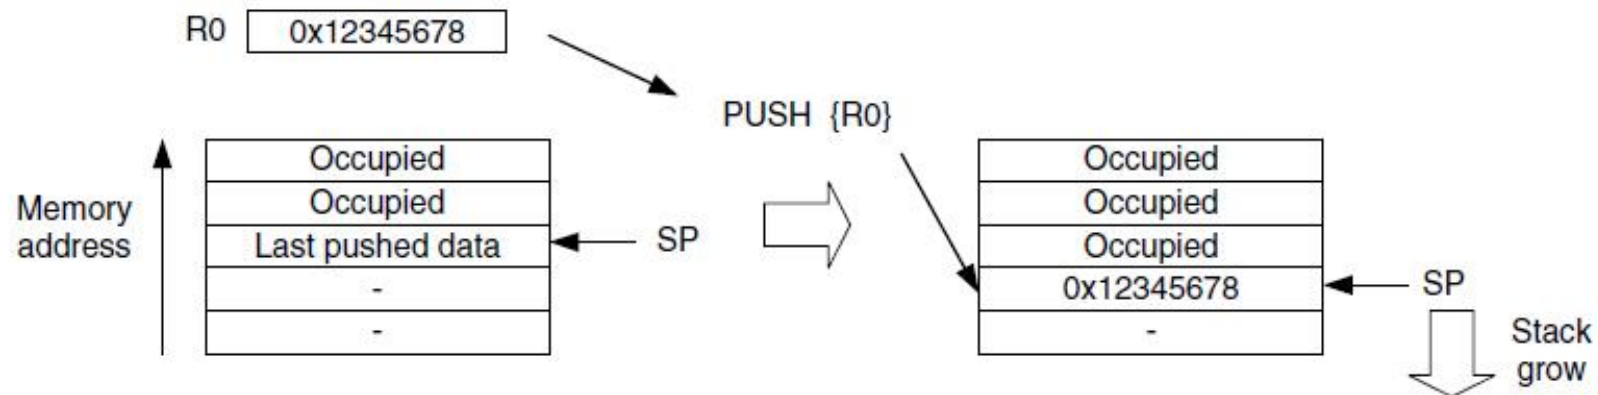

FIGURE 3.14
- Figure 3.14 shows execution of the instruction PUSH {R0}.